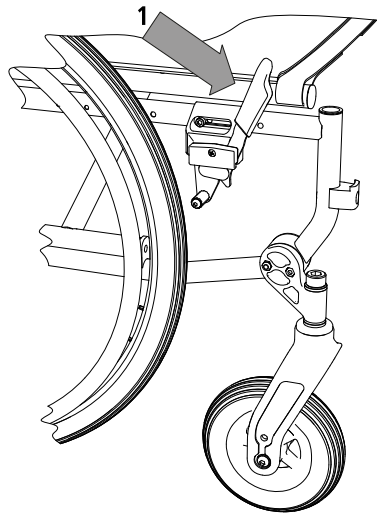

fig.24
1. Press the brake lever forwards so that the brake blocks the wheel (1, Fig. 24).